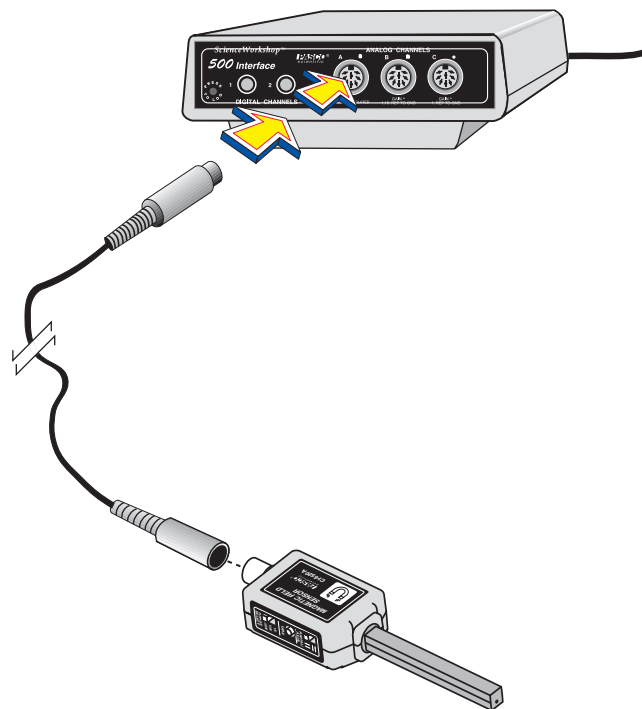

Figure 2
1. Connect the Magnetic Field Sensor unit to analog channel A, B, or C of the *Science Workshop* computer interface box using the cable with the DIN connectors (Figure 2). Alternatively, the unit can be plugged directly into the analog channel jack.